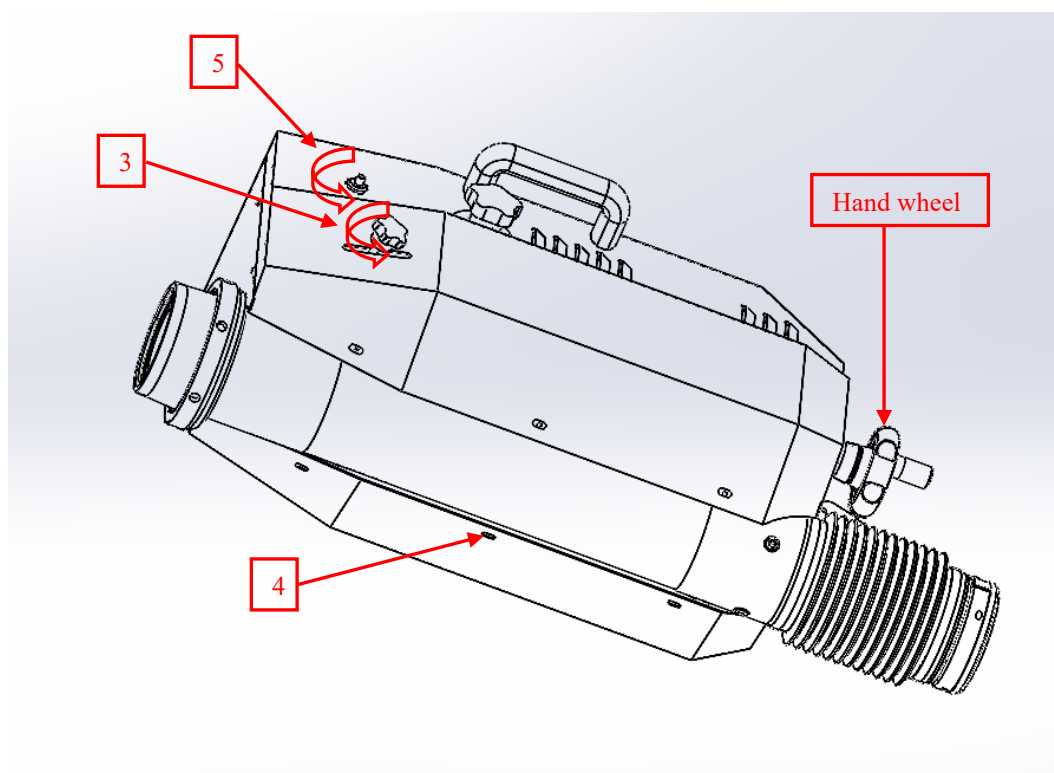

Figure 5.2
- 5.1.4 Unscrew the welding engagement lever knob shown in figure 5.2 – position 3;
- 5.1.5 Unscrew the lower housing fixing screws, as shown in figure 5.2 – position 4;
- 5.1.6 Unscrew the fixing nut, as shown in figure 5.2 – position 5;